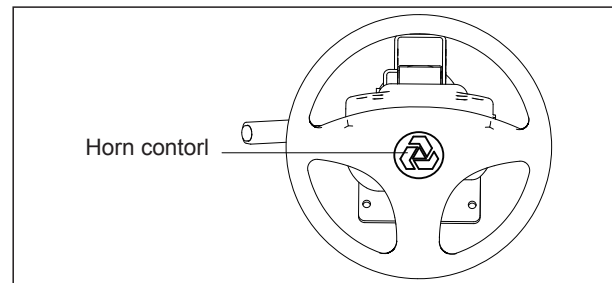

Fig 4.17
6. Press horn control to sound horn. (see Fig 4-17).